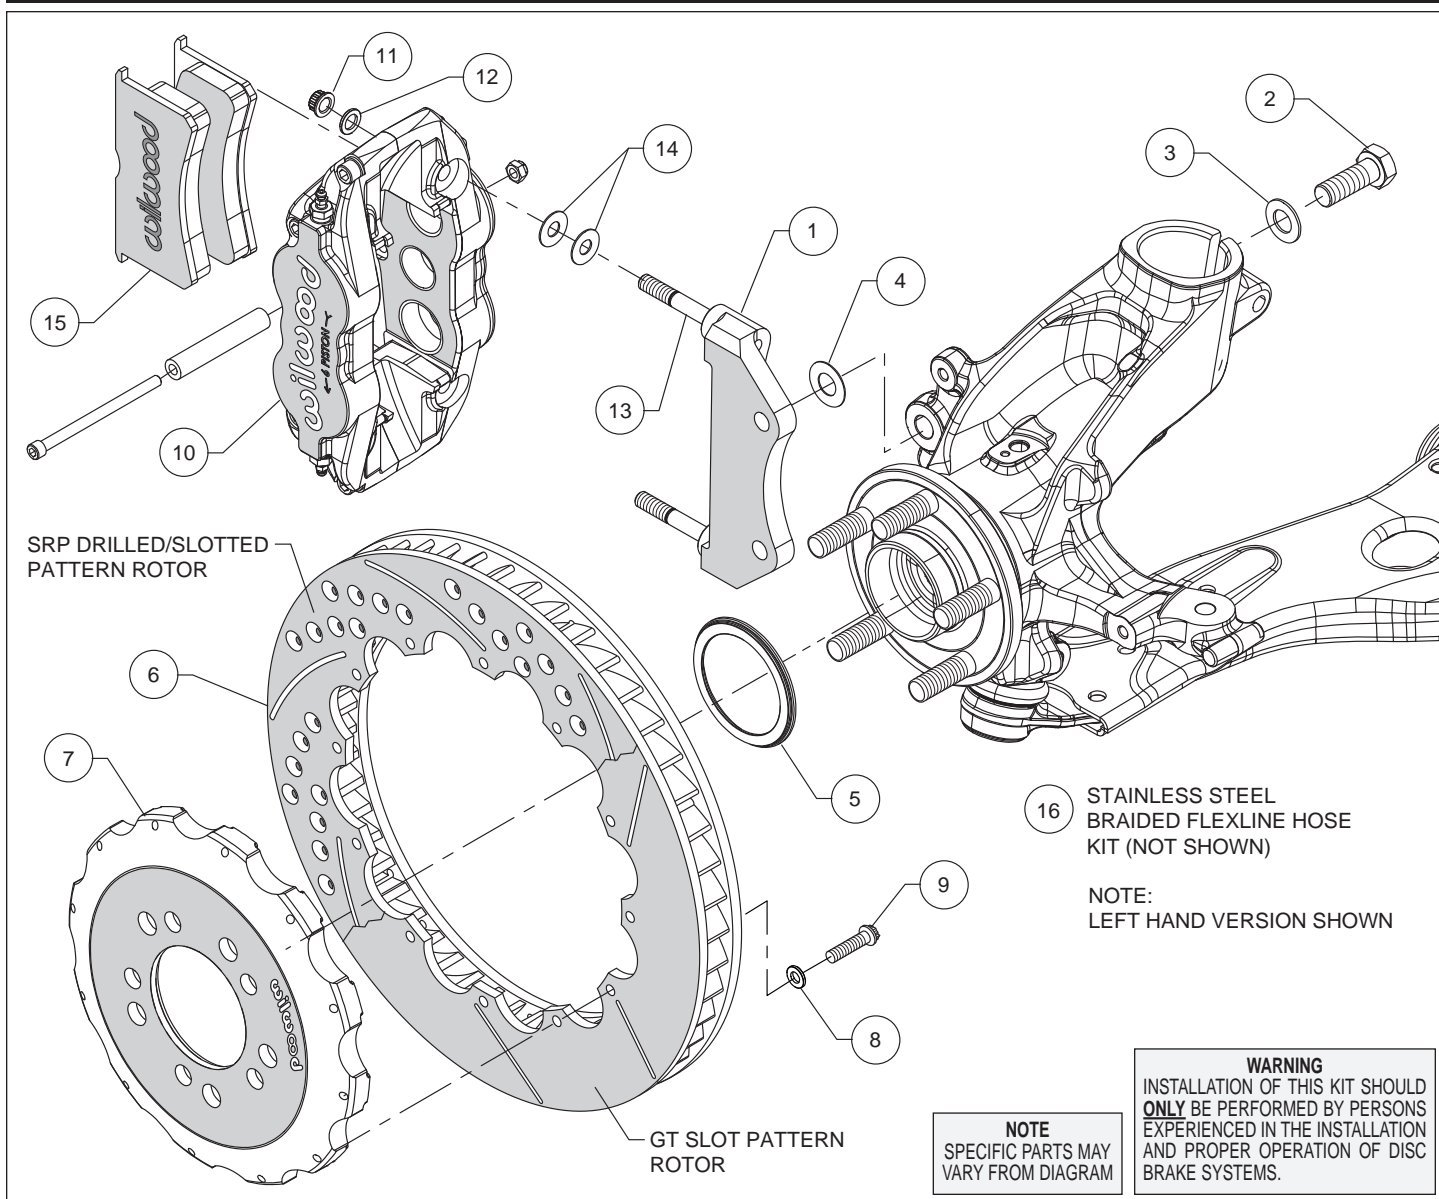
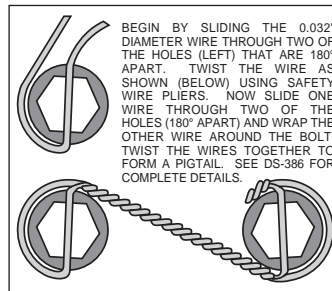

Figure 1. Typical Installation Configuration
Figure 3. Safety Wire Diagram
Assembly Instructions (numbers in parenthesis refer to the parts list and Figure 1 on the preceding pages):
- The caliper mount bracket (1) should initially be installed with clean, dry threads on the mounting bolts. Orient the bracket as shown in Figure 1 and Photo 1, and install using washers (3) and bolts (2). Initially place one .029 thick shim (4) on each bolt between the bracket and upright, Figure 1. Temporarily tighten the mounting bolts. **NOTE:** *The bracket must fit squarely against the mount bosses on the upright.* Inspect for interference from casting irregularities, machining ridges, burrs, etc. Later, after the caliper alignment has been checked, the mount bolts will be secured using red *Loctite*® 271.
- Orient the rotor (6) and the hat (7) as shown in Figure 1 and Photo 2. Attach rotor to hat using bolts (9) and washers (8). Using an alternating sequence, apply red *Loctite*® 271 to the threads, and torque to 155 **in-lbs**. For an added measure of security, the bolts may be safety wired using standard 0.032 inch diameter stainless steel safety wire as shown in Figure 3. Please refer to Wilwood's data sheet DS-386 (available at www.wilwood.com/Pdf/DataSheets/ds386.pdf) for complete safety wire installation instructions.
- Slide the rotor registration adapter (5) onto the axle register on the axle hub with the smaller O.D. facing outward, Photo 3. Slide the hat/rotor assembly onto the axle hub. **NOTE:** *The hat must fit flush against the axle hub flange or excessive rotor run out may result.* Install three lug nuts (finger tight) to keep the hat/rotor assembly in place while continuing with the installation.
- NOTE:** *This kit contains distinct right and left hand calipers that must be mounted in a specific direction, as described below.* Lubricate the caliper mounting studs (13) with lightweight oil. Initially place two .035" thick shims (14) on each stud as shown in Figure 1 and Photo 4. Mount the caliper (10) onto the bracket (1) using lock nuts (11) and washers (12), Figure 1. Ensure that the caliper is mounted so that the largest pistons are at the rotor exit end of the caliper, in relation to the direction of rotor rotation. Temporarily tighten the lock nuts and view the rotor through the top opening of the caliper. The rotor should be centered in the caliper, Photo 5. If not, adjust by adding or subtracting shims (4) between the bracket and the upright. Always use the same amount of shims on each of the two mounting bolts. Once the caliper alignment is correct, remove the bracket mounting bolts (2) one at a time, apply red *Loctite*® 271 to the threads, and torque to 60 ft-lb.